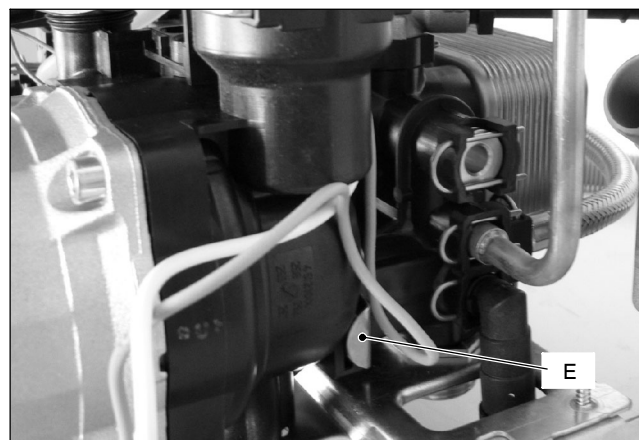

Fig. 20
- 6 Remove the locking plate E (Fig. 20).